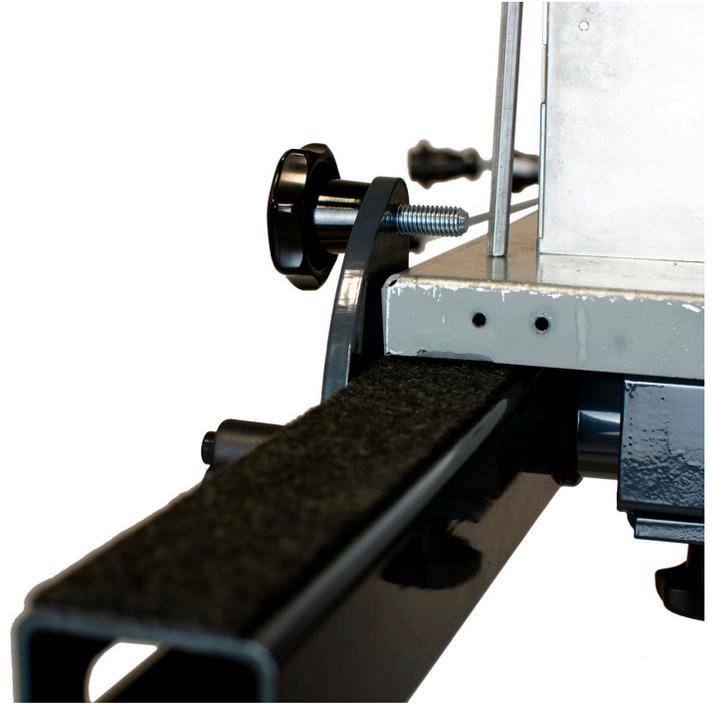

FIG. 4
4. Loosely position the upper and lower clamping units across the top and bottom extensions (factory pre-installed, Fig. 4).